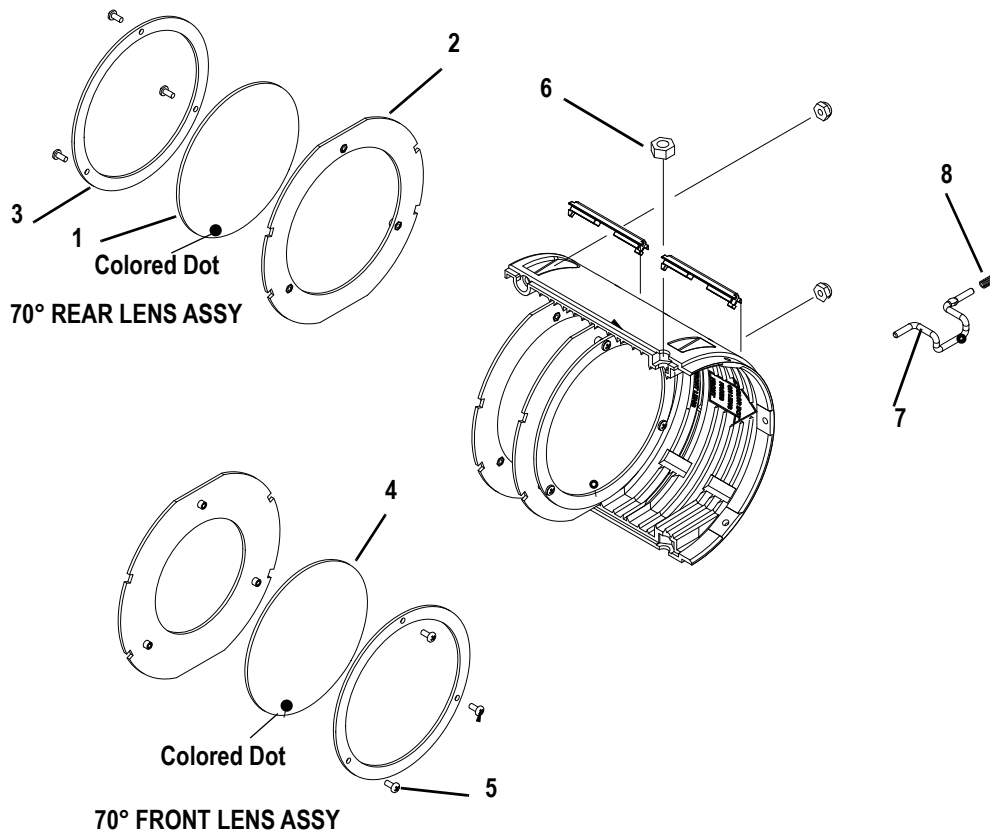

Figure 23
- Step 1: See Figure 23. Place rear lens (1) into mounting plate (2) with paint dots facing forward. Center the lens in the mounting plate and secure with the retaining ring (3) and screws (6). Lightly tighten all three screws while maintaining lens position, then tighten screws securely.
- Step 2: See Figure 23. Place front lens (4) into mounting plate (5) with paint dots facing forward. Center the lens in the mounting plate and secure with the retaining ring (3) and screws (6). Lightly tighten all three screws while maintaining lens position, then tighten screws securely.